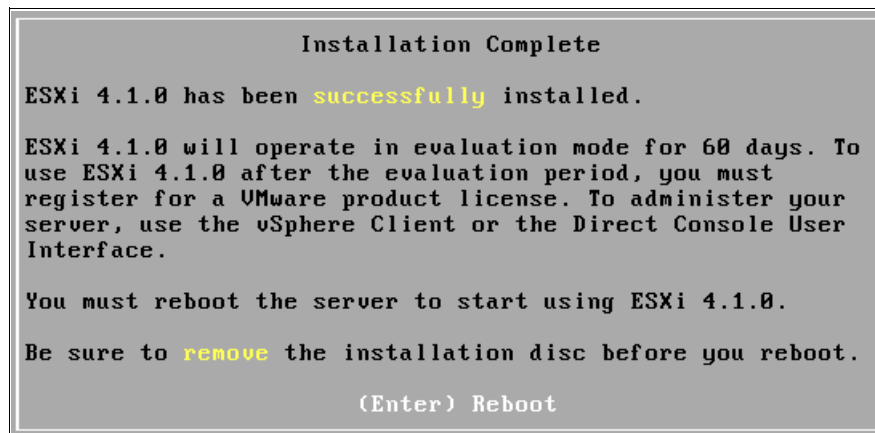

Figure 2-121 Successfully installed ESXi 4
6. After the installation is completed, we see a panel as shown in Figure 2-121. Press Enter to reboot the system, and the system will now boot from the SAN.